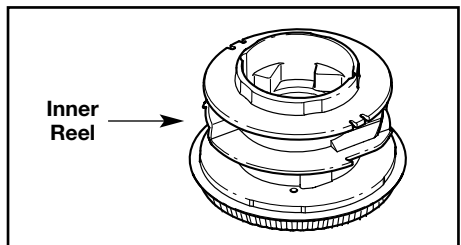

Fig. 21
3. Remove any debris or grass from the knob, spring, inner reel, and foam seal. Remove any existing line from the inner reel before cleaning. Wash the inner reel with warm soapy water (Fig. 21).